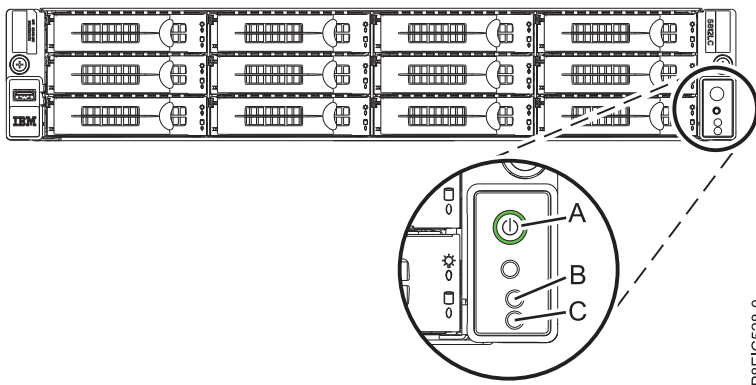

Figure 42. Power button
- The power-on LED, as shown in Figure 42, is flashing. A flashing light indicates standby power to the unit.
3. Press the power button (A) shown in Figure 42. The power-on light stops flashing and remains on, indicating that the system power is turned on. The system cooling fans operate at a high speed, and after approximately 30 seconds, return to operating speed.